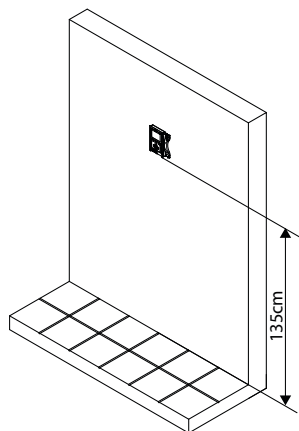
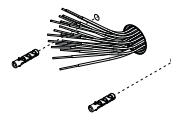

Fig. 1a
Fig. 1b
1. As shown in **Fig. 1a**, place the videophone against the wall at 135cm height from the floor and mark the fixing holes. Make the holes (5mm diameter) and insert the provided wall plugs as shown in **Fig. 1b**.